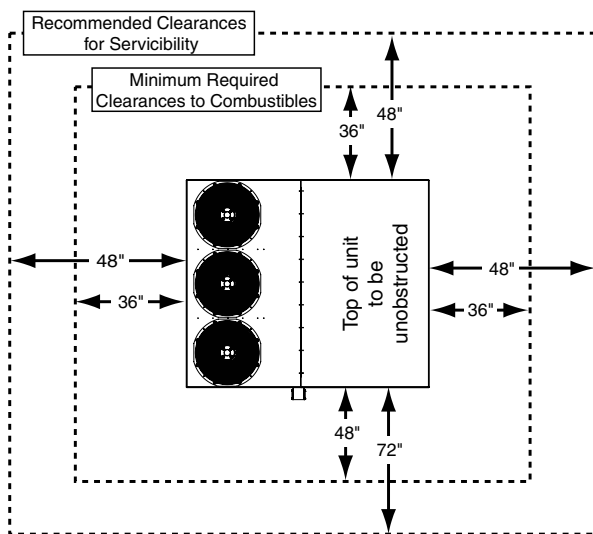

Figure 5. Unit Clearance Requirements
R6GN units are certified as combination heating and cooling equipment for outdoor installation only. Figure 5 displays the minimum clearances to combustible materials for both downflow and horizontal discharge.
- Clearances must be in accordance with those shown in Figure 5.